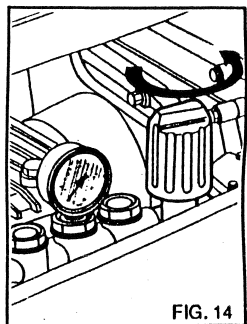

FIG. 14
- 5) To adjust jet, pressure turn the pressure regulating device (fig. 14) .